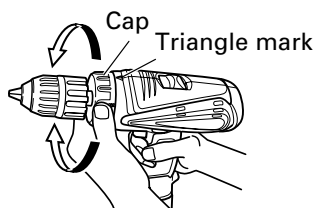

Fig. 9
#### 5. Confirm the cap position (see Fig. 9)
**(2) Tightening torque indication (See Fig. 9)**
**(3) Adjusting the tightening torque (See Fig. 9)**